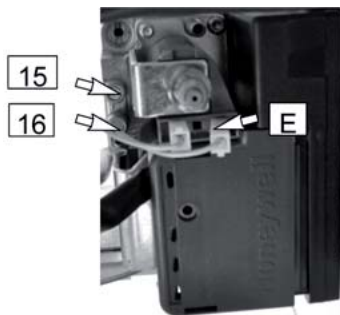

Figure 15.4
- Loosen the internal screw 15 (Figure 15.4) on the Outlet Pressure Test Point of the Gas Valve and connect a pressure gauge using a suitable hose.
- Disconnect the gas modulator coil by removing the electrical connector E (Figure 15.4).